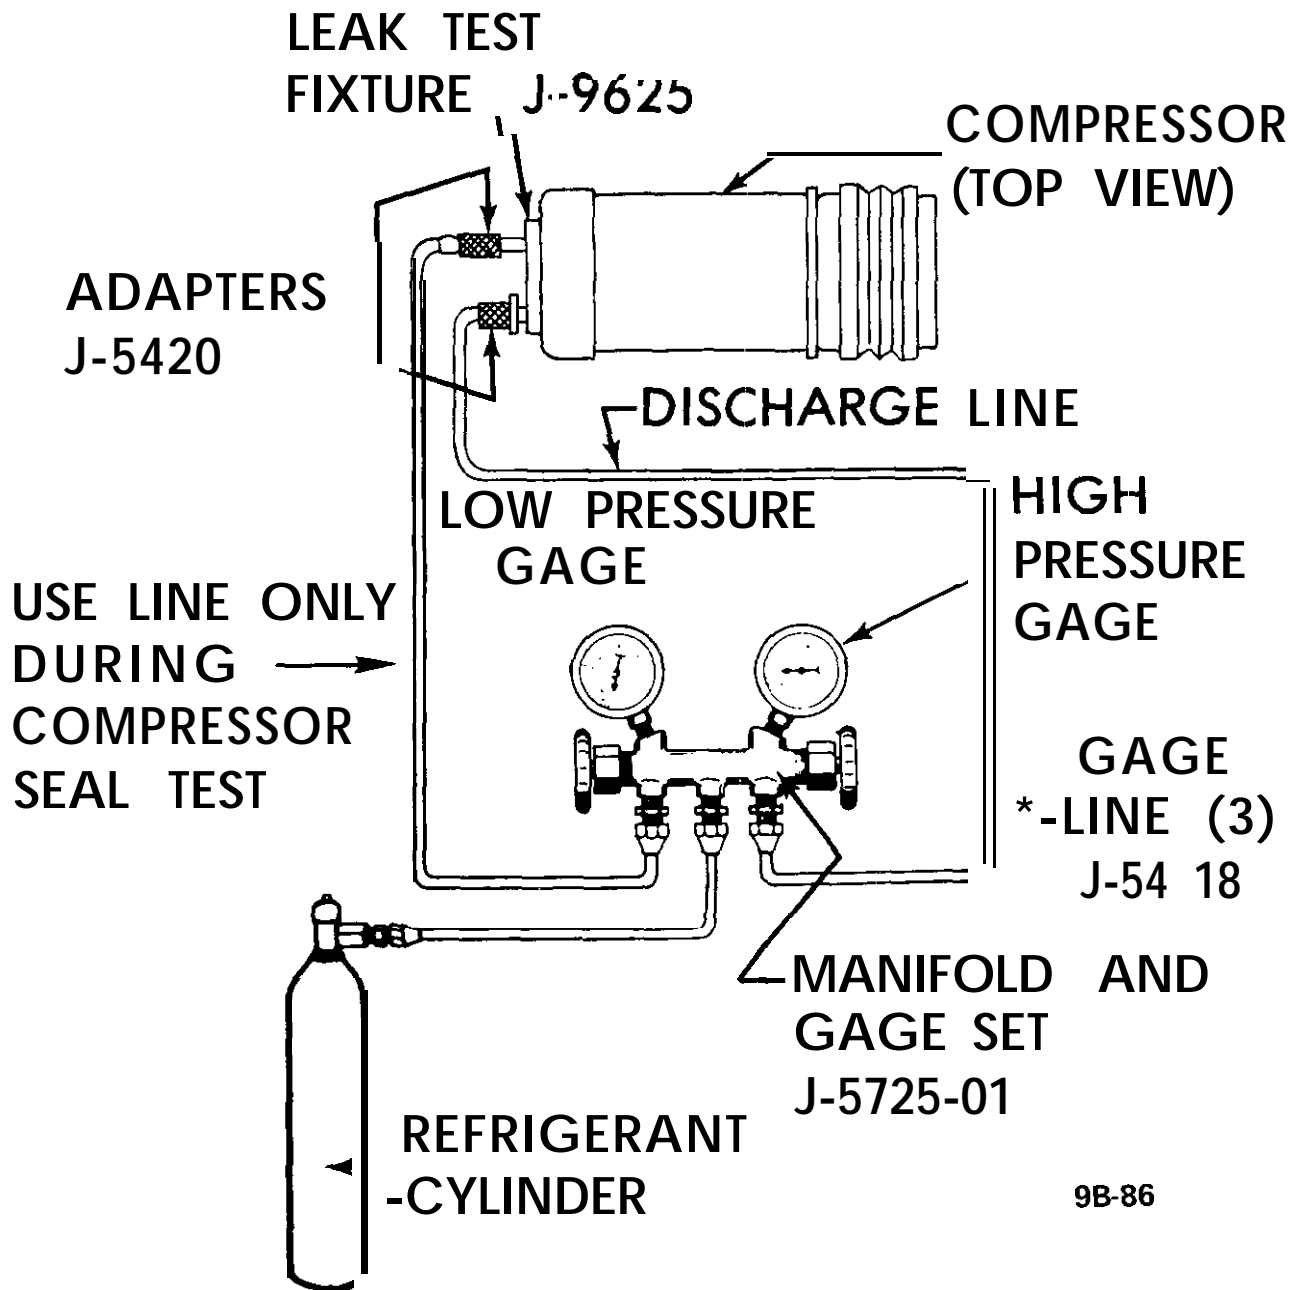

Figure 9B-112 Leak Testing Shaft Seal and Seal Seat O-Ring
9. Insert woodruff key into hub of clutch drive plate so that it projects out approximately $3/16$ inch (see Figure 9B-113) and position clutch drive plate onto shaft.